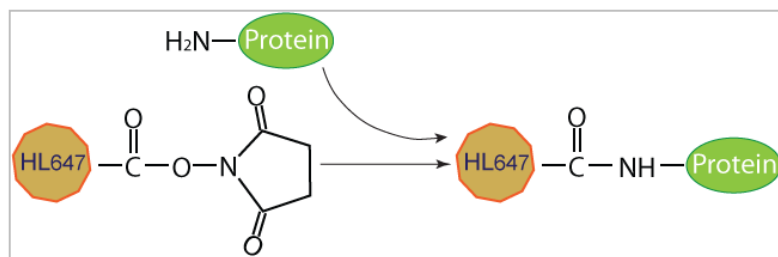

Figure 3. HiLyte™ 647 labeling of an amino group (for instance, a lysine) on a biopolymer (i.e. a protein) with a succinimidyl ester of a dye.
This kit provides a convenient way to label proteins by using the succinimidyl ester (SE) reactive form of HiLyte™ Fluor 647. The succinimidyl ester couples selectively with aliphatic amines of the protein and forms a carboxamide bond, which is identical to, and is as stable as the natural peptide bond (Figure 3).